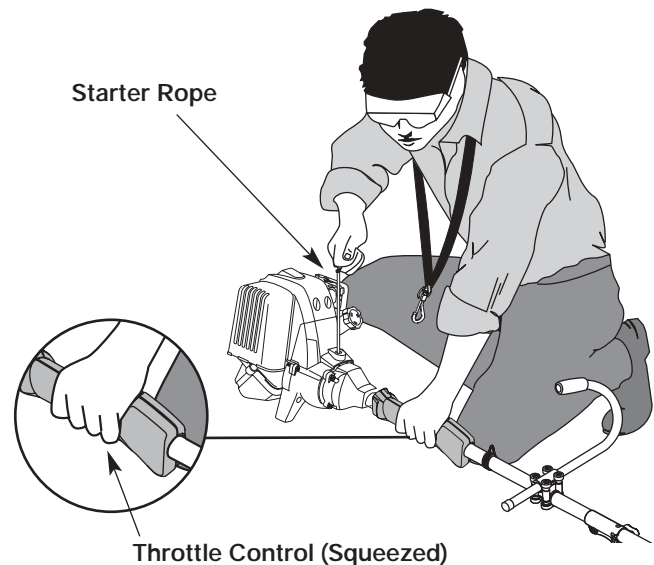

Fig. 22
WARNING: Avoid accidental starting. Make sure you are in the starting position when pulling the starter rope (Fig. 22). To avoid serious injury, the operator and unit must be in a stable position while starting. To avoid serious personal injury, ensure any Add-On being used is installed correctly and secure before starting the unit.
6. Crouch in the starting position (Fig. 22) and squeeze the throttle control. Pull the starter rope briskly 5 times.